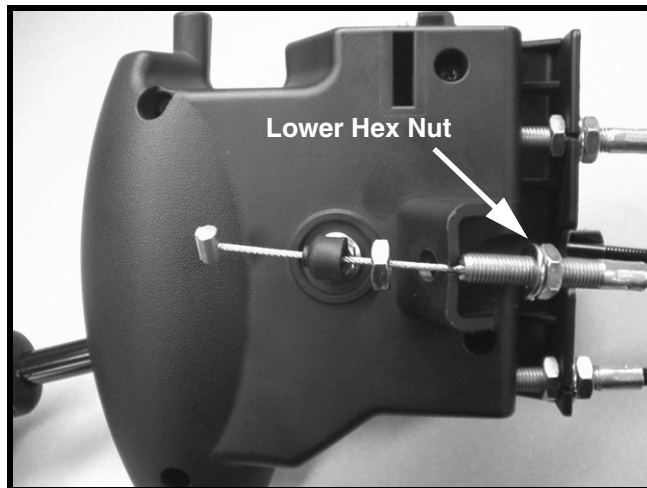

FIGURE 4
10. Remove both chute rotation cables as follows. Slide the rubber seal cap off from the threaded cable end. Using a 1/2" open end wrench and pair of pliers, loosen and remove the hex jam nut nearest the end of the threaded ferrule. To retain current cable adjustment, **DO NOT** move the lower hex nut. See Figure 4.
11. Slide the threaded cable end out of the housing's cable bracket hole and slip the cable out through the slot in the cable bracket. See Figure 4.